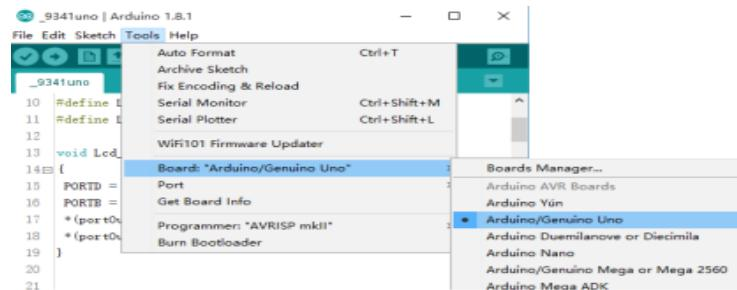

Figure 12
(2) Click "Tool" -- "Board" -- "Arduino/Genuino Uno" (See Figure 12)